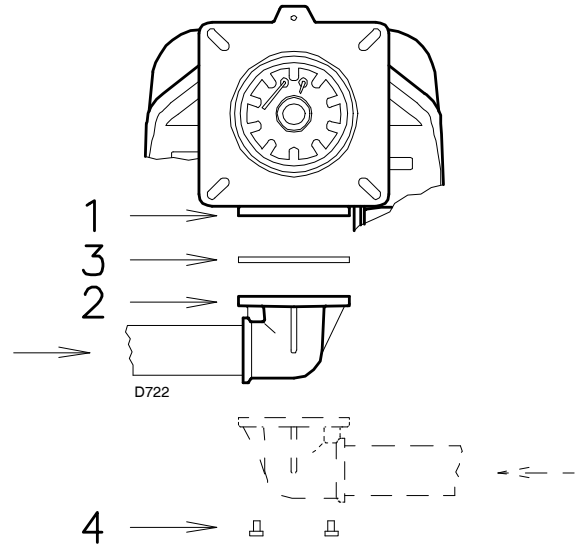

Fig. 18
- The gas train can enter the burner from the right or left side, depending on which is the most convenient, see Fig. 18.
- The gas train must be connected to the gas attachment 1) (Fig. 18) with the flange 2), the gasket 3) and the screws 4) supplied with the burner.